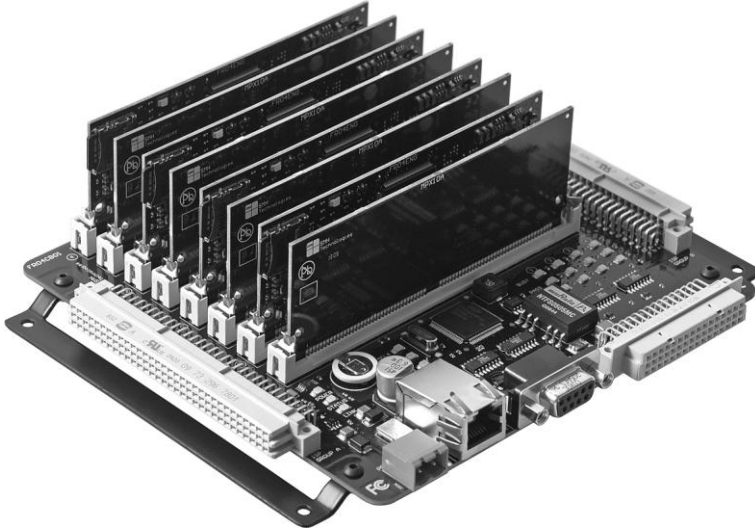

Figure 1.1: FlashRunner Quattro
- Figure 1.1: FlashRunner Quattro 11